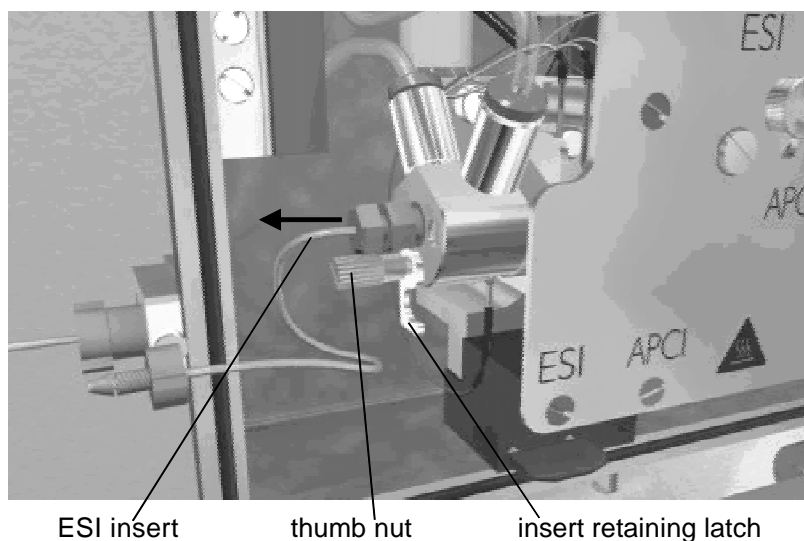

Figure 2-6. Removing the ESI insert
2. Loosen the thumb nut, and drop the retaining latch to the open position (see Figure 2-6).